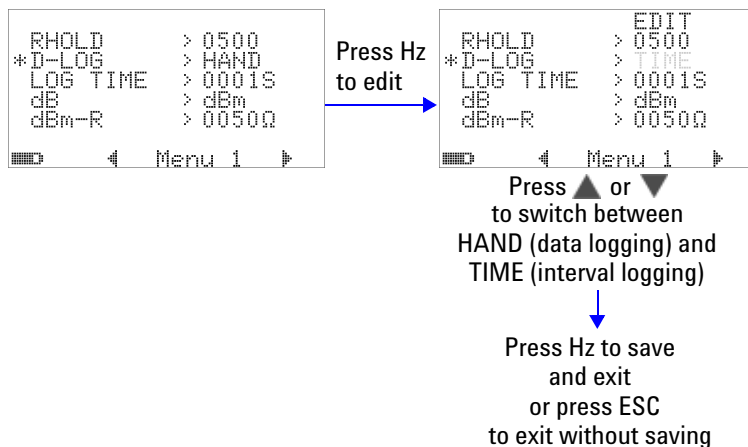

Figure 4-3 Data logging setup
- 1 Set to “HAND” to enable manual (hand) data logging, or set to “TIME” to enable interval (time) data logging. Refer to Figure 4-3 on page 88.